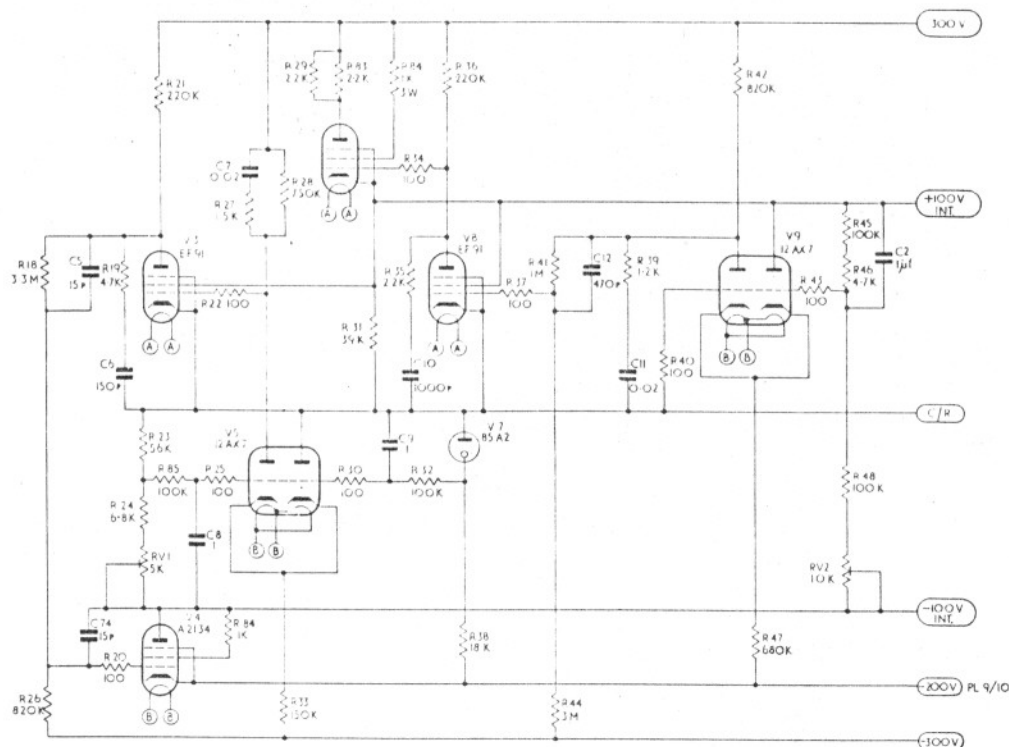

Fig. 2 Circuit Diagram - ± 100 V Reference Power Supply
-100 Volts Reference Power Supply (Refer Fig. 2)
+100 Volts Reference Power Supply (Refer Fig. 2)